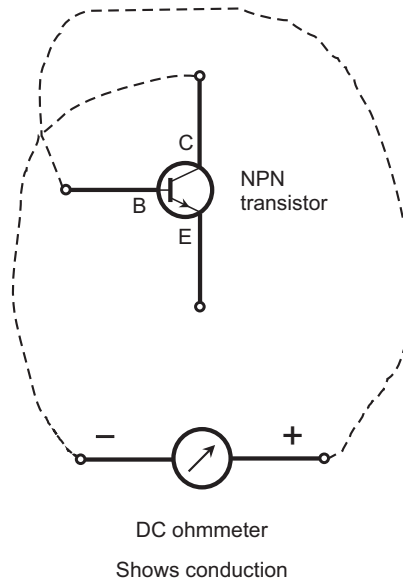

FIGURE 7-20 Electrons should flow from the collector to the base.
3. Electrons should flow from the collector to the base (Fig. 7-20).